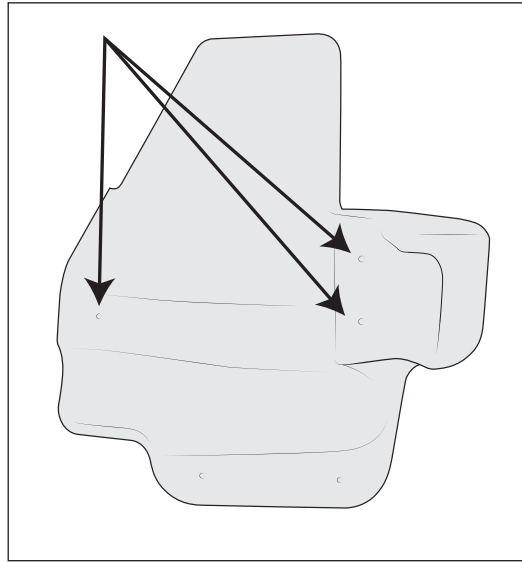

Figure 3
- A. Locate the three upper dimples on each Flare Extension (fig. 3). Drill pilot holes of approximately 1/8" then drill final holes to 13/32".